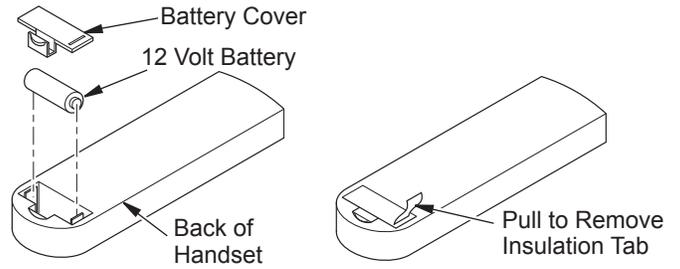

Figure 48 - Installing Battery into Back of Handset
3. Activate the remote handset battery by removing the insulating tab on the back of the handset (see Figure 48). The battery is included pre-installed.